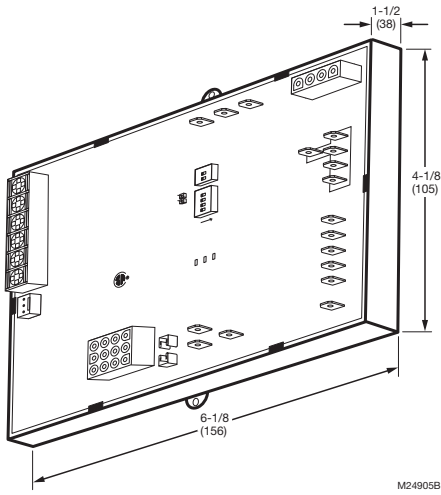

Fig. 1. S9200U1000 dimensions in inches and (mm).
6. Secure the board to the mounting panel base plate with the two sheet metal screws inserted through the eyelets located on the edges of the board. See Fig. 1 on page 7.